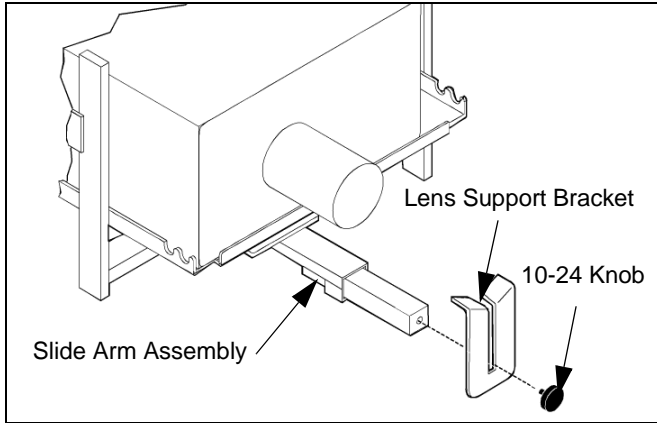

Figure 4: Remove Lens Support Bracket
1. Loosen Lens Support Bracket Adjustment Knob and remove Lens Support Bracket from Slide Arm Assembly. (see Figure 4:) Store Lens Support Bracket for later use.